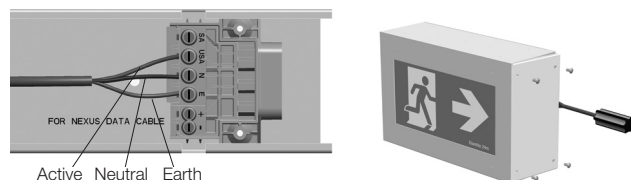

Figure 3: Mains connection and how to get access to main frame
3. Put the main frame upside down, remove six (6) special G6 x 1/2 counter sunk torx screws by using a torx pin driver or screw driver. Gently insert a small flat head screwdriver into the side of the front cover to lever it out, remove the front cover. See figure 3.
7. Run the cables in the ceiling or wall space as appropriate through the cable hole into the bracket, a suitable bush may have to be used to protect the cable as it passes through the cable entry hole into the mounting bracket. Secure the main frame to the wall or ceiling before terminating any wiring. Strip, connect and terminate the cables as indicated in figure 3. Ensure that the double insulation of the cable/s passes completely into the terminal block enclosure so that no single insulation is exposed when the cover is in place. Be careful with multi-strand conductors that all of the strands are twisted together before insertion into the terminal. Any stray strands that inadvertently come into contact with their neighbouring terminal or the metal frame of the fitting will cause undesirable results when the fitting is powered. Install the plastic panel over the terminal block.